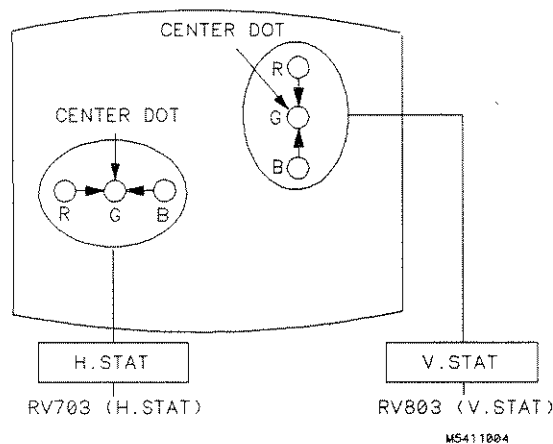

Figure 4-7. Static Convergence
5. Check four dots which are around center intersection of cross-hatch pattern for coincidence of blue, red, and green dots. If the dots are not coincident, adjust H.STAT (RV703) on rear PC board to obtain horizontal coincidence and V.STAT (RV803) on bottom PC board to obtain vertical coincidence. Refer to figure 4-7.